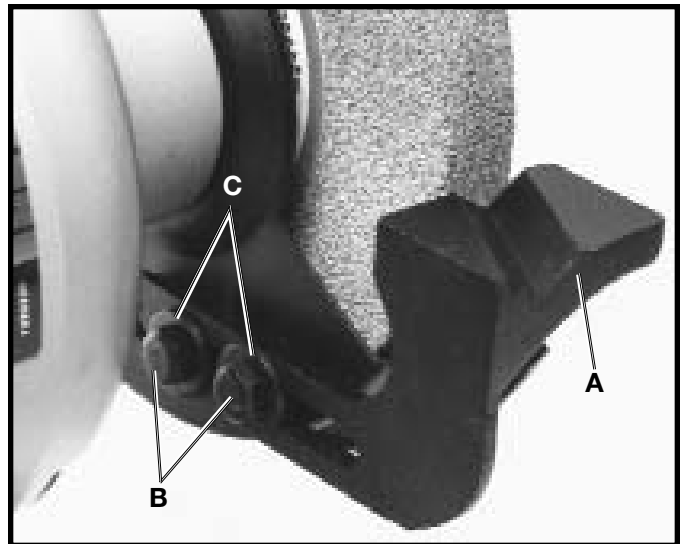

Fig. 3
1. Assemble the v-grooved tool rest (A) Fig. 3, to the inside of the right wheel guard using two 5/16-18x5/8" hex head screws (B), and 3/4" flat washers (C).